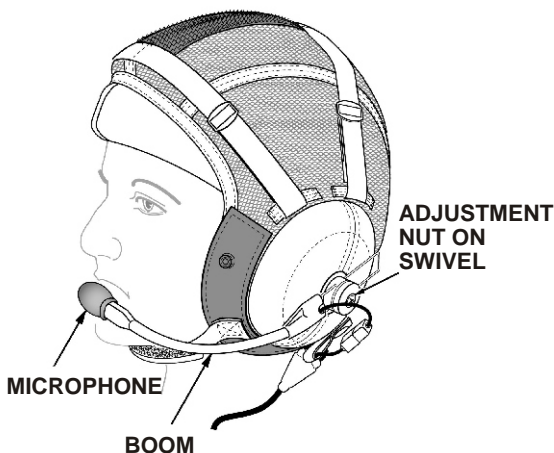

Figure 6. Microphone
6. Referring to **Figure 6**, loosen the adjustment nut on the swivel. Adjust the boom and microphone to the proper position, and re-tighten the nut.